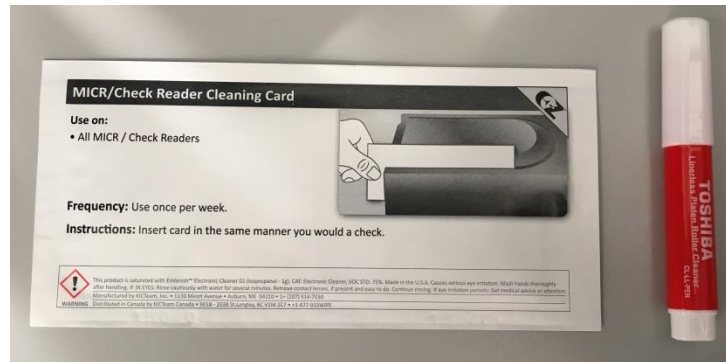

Figure 3 – MICR Cleaning Card, Silicone Cleaning Pen - the color of the pens may vary
3. Clean the Thermal Print Head using any one of the following approved methods (see **Figure 3** for the supplies used for A and B):
1. If the MICR reader needs to be cleaned, use the MICR/Check Reader Cleaning Card (shown in Figure 3).